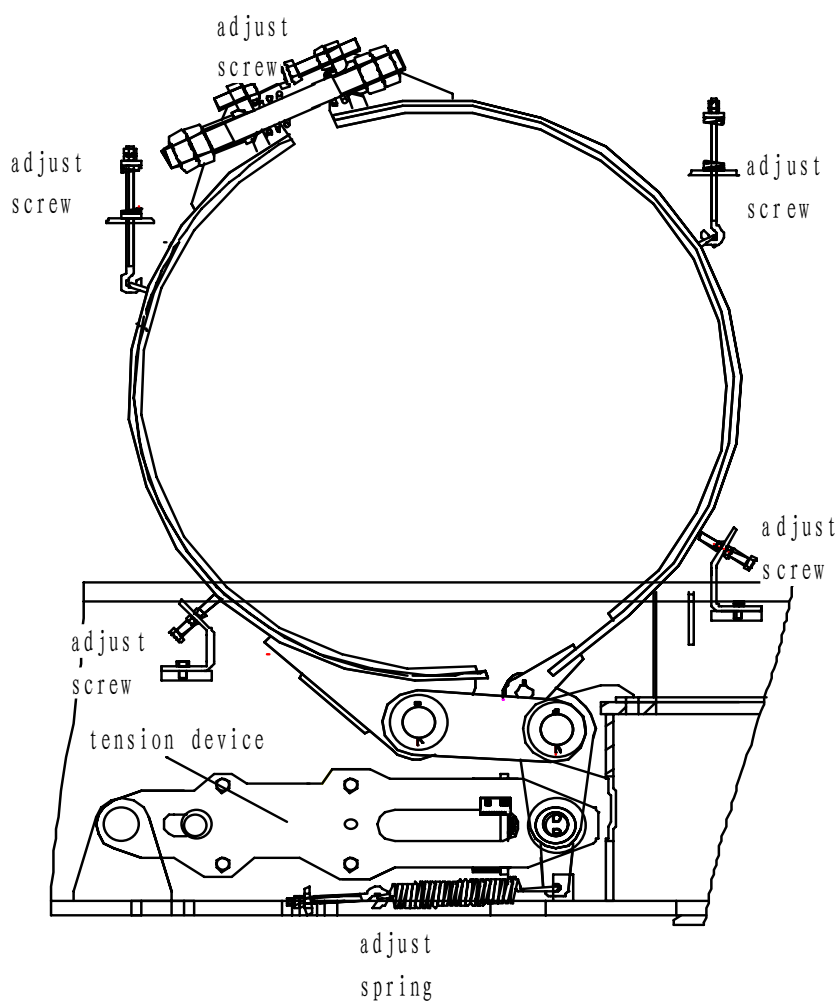

Fig. 6-5
6.4.1 Structure of brakes for main and auxiliary winches as shown in Fig. 6-5 below: